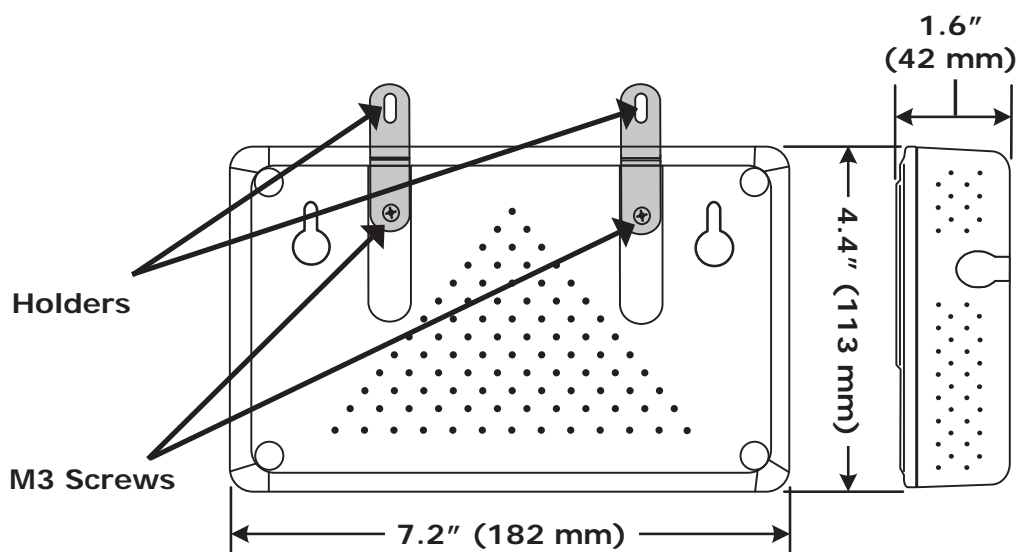

Figure 3, MagWeb Mounting Screws and DIN Rail Holders
1. Loosen the two M3 mounting screws on the back of the MagWeb GT, and then rotate the two rail holders so that the holders are above the unit (Figure 3).